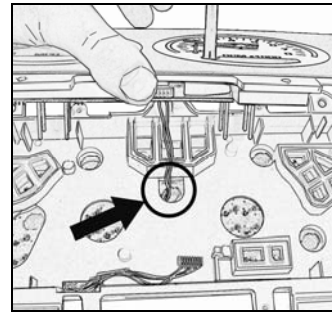

Figure 9
- B. Feed the Lighting Power Connector thru the center illumination lamp hole in the circuit board and then reconnect the Lamp Socket Connector pigtail back to it (See figure 9).